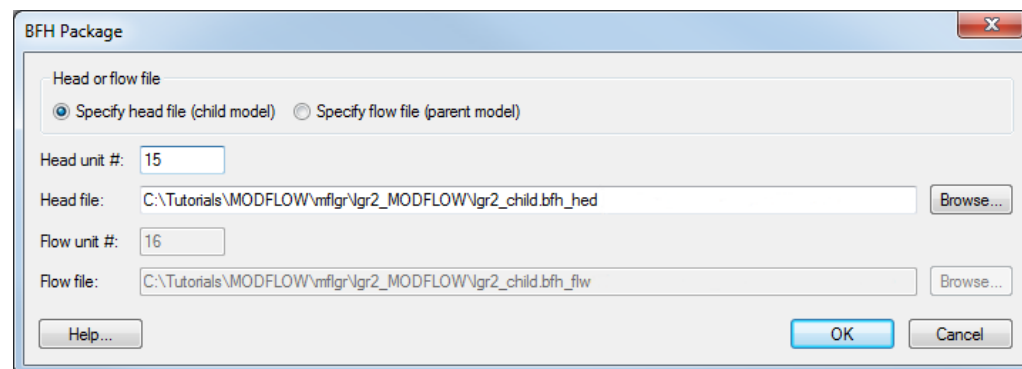

Figure 14 BFH Package dialog
6. Under the “ child” grid, right-click on “ MODFLOW” and select *Optional Packages / BFH – Boundary Flow and Head* to open the *BFH Package* dialog (Figure 14).